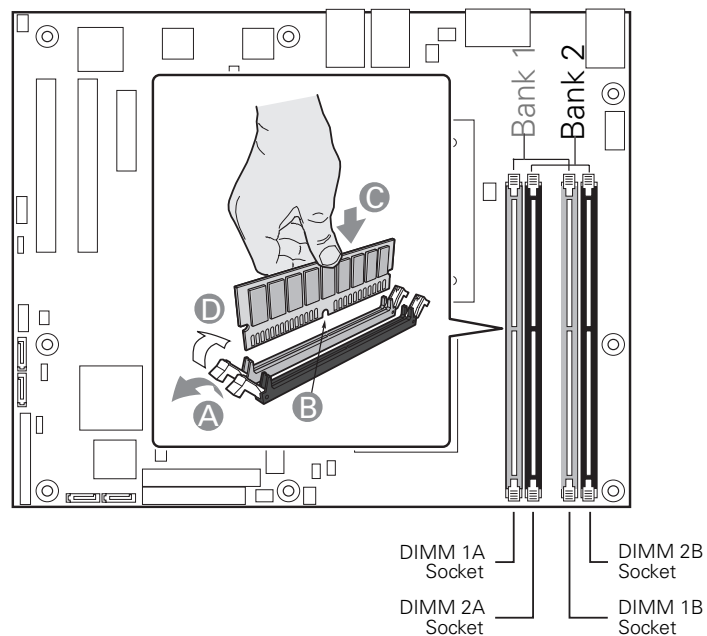

Figure 5. Installing DIMMs
5. Locate the DIMM sockets (see Figure 5).
6. Make sure the clips at either end of the DIMM socket(s) are pushed outward to the open position (see letter "A" in Figure 5).
8. Position the DIMM above the socket. Align the notch on the bottom edge of the DIMM with the key in the DIMM socket (see letter "B" in Figure 5).
9. Insert the bottom edge of the DIMM into the socket (see letter "C" in Figure 5).
10. When the DIMM is inserted, push down on the top edge of the DIMM until the retaining clips snap into place. Make sure the clips are firmly in place (see letter "D" in Figure 5).